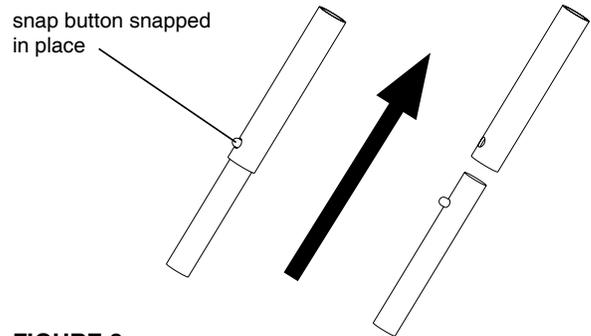

FIGURE 8
4. For Quickflip 2 only, assemble the two sets of door spreader poles (69356 & 69357) by sliding male half into the female half and snapping in place with snap button. SEE FIGURE 8.
5. Unzip door and move to the inside of shelter and extend the (3) top cross brace poles and snap into place. Place back spreader pole with stud, both roof spreader poles and both door spreader poles into position by snapping C-clip over cross brace poles. For back spreader pole, simply place end with stud into pre-drilled hole in back lip of sled. Attach all Velcro loops to cross brace poles. SEE FIGURES 8 & 9.